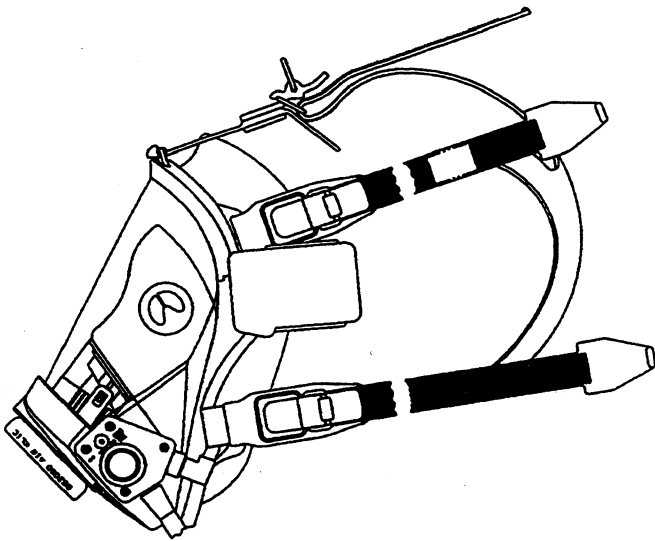

Figure 6. Ear Speaker Cable Configuration
19. Connect the ear speaker cable to the RCS. Insert the end of the ear speaker retainer into the lower slot on the rim. Removal of the lower silicone strap may be necessary to facilitate installation. See Figures 6 and 7.